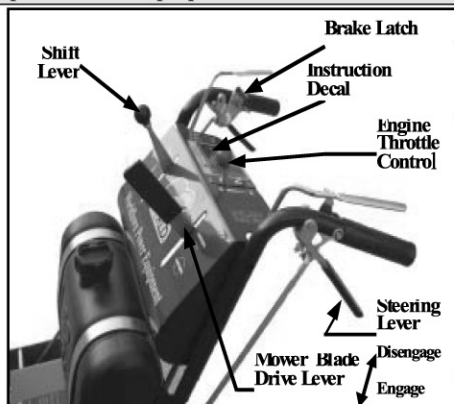

FIG 3 Mower Controls
The Handlebars and Control Linkages may not be completely installed on the Mower and Connectors may be disengaged. Attach the Handlebars with two bolts on each side as shown in FIG 9. Attach Throttle Cable to the Engine as shown in FIG 1 and in the Engine Operating & Maintenance Instructions. Each of the Control Rods must be connected as shown in FIG 3 & 10. Follow the instructions to properly adjust each of the controls. The Fuel Line should be connected to the Engine Fuel Filter and attached to the Engine with one Tie. Tighten the Fuel Clamp Screw FIG 1. Attach the Discharge Chute FIG 7. Attach the LH & RH Front Caster Wheel Arm Assembly to the Mower Deck with 4 bolts in each Arm.
3. Grease Fittings are provided on important parts requiring lubrication. See FIGS 3 & 10.
STARTING THE ENGINE FIG 3
1. See that the Blade Drive Lever is disengaged and the Transmission is in neutral. FIG 3.
STOPPING THE ENGINE FIG 3
BLADES AND WHEELS DRIVES FIG 3
1. Be sure that Mower Blade Drive Lever is disengaged and both Brake Latches are locked. FIG 3.